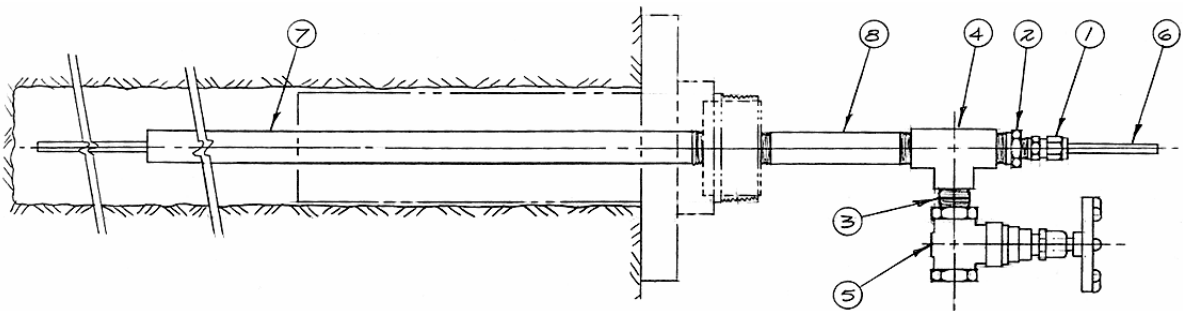

Figure 2
- 3.2.4 Using Figure 2 as a guide, screw the **down-hole grout pipe**, (7), into the back of the Tube Mount, screw the **external grout pipe**, (8), into the front of the Tube Mount, thread the **vent tube**, (6), through these two pipes and tape to the deepest borehole anchor so that it protrudes beyond the anchor by a distance of about 30 centimeters. Now slide the **Valve/Tee assembly**, (1 thru 5), over the vent tube and screw onto the external grout tube. Tighten the Swagelok fitting, (1), onto the vent tube